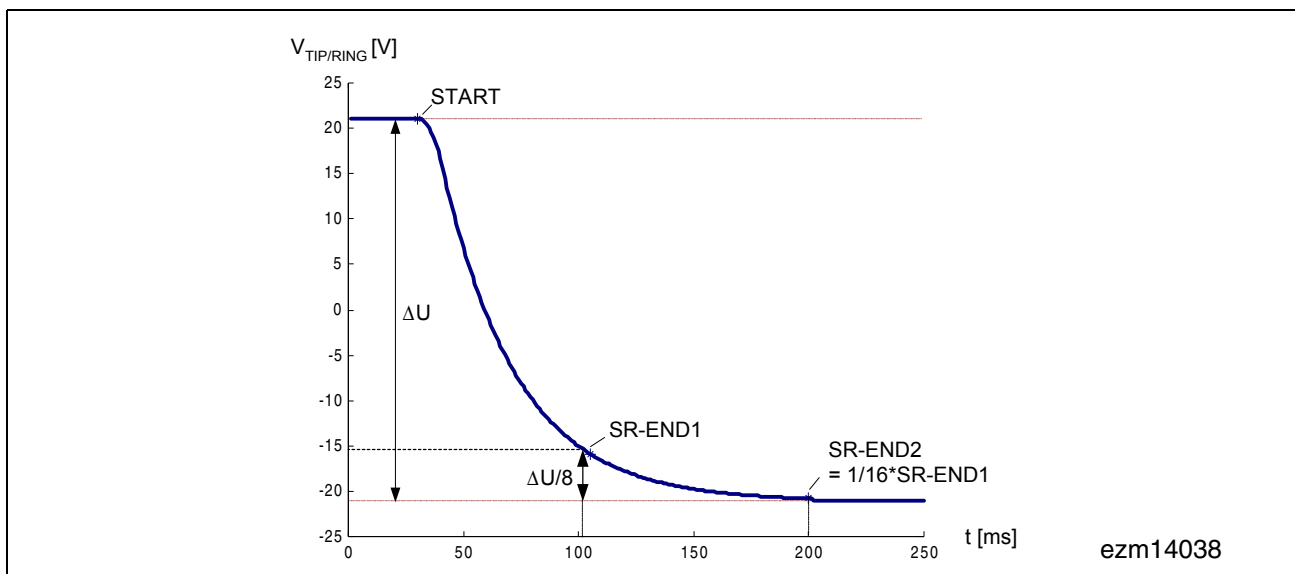

Figure 27 Soft Reversal (Example for Open Loop)
Some applications require a smooth polarity reversal (soft reversal), as shown in Figure 27. Soft reversal helps prevent negative effects such as non-required ringing. Soft reversal is deactivated by the SOFT-DIS bit in register BCR2.
- SOFT-DIS = 0 Soft reversal is performed. Transition time (time from START to SR-END1, see Figure 27) is programmable by CRAM coefficients; default value is 80 ms.